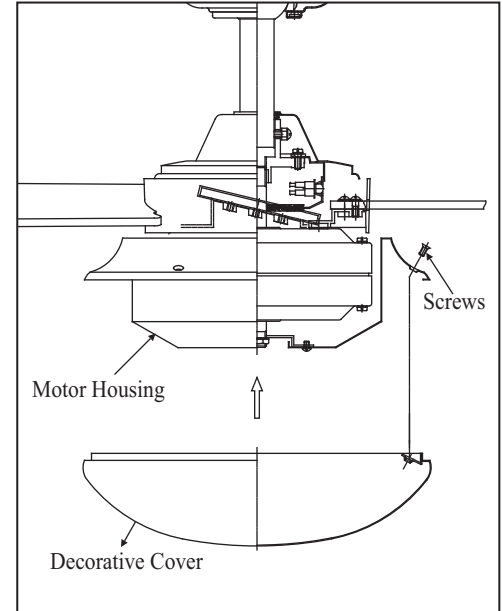

Figure 16
1. Install the decorative cover to the motor housing with the screws provided. (Fig. 16)